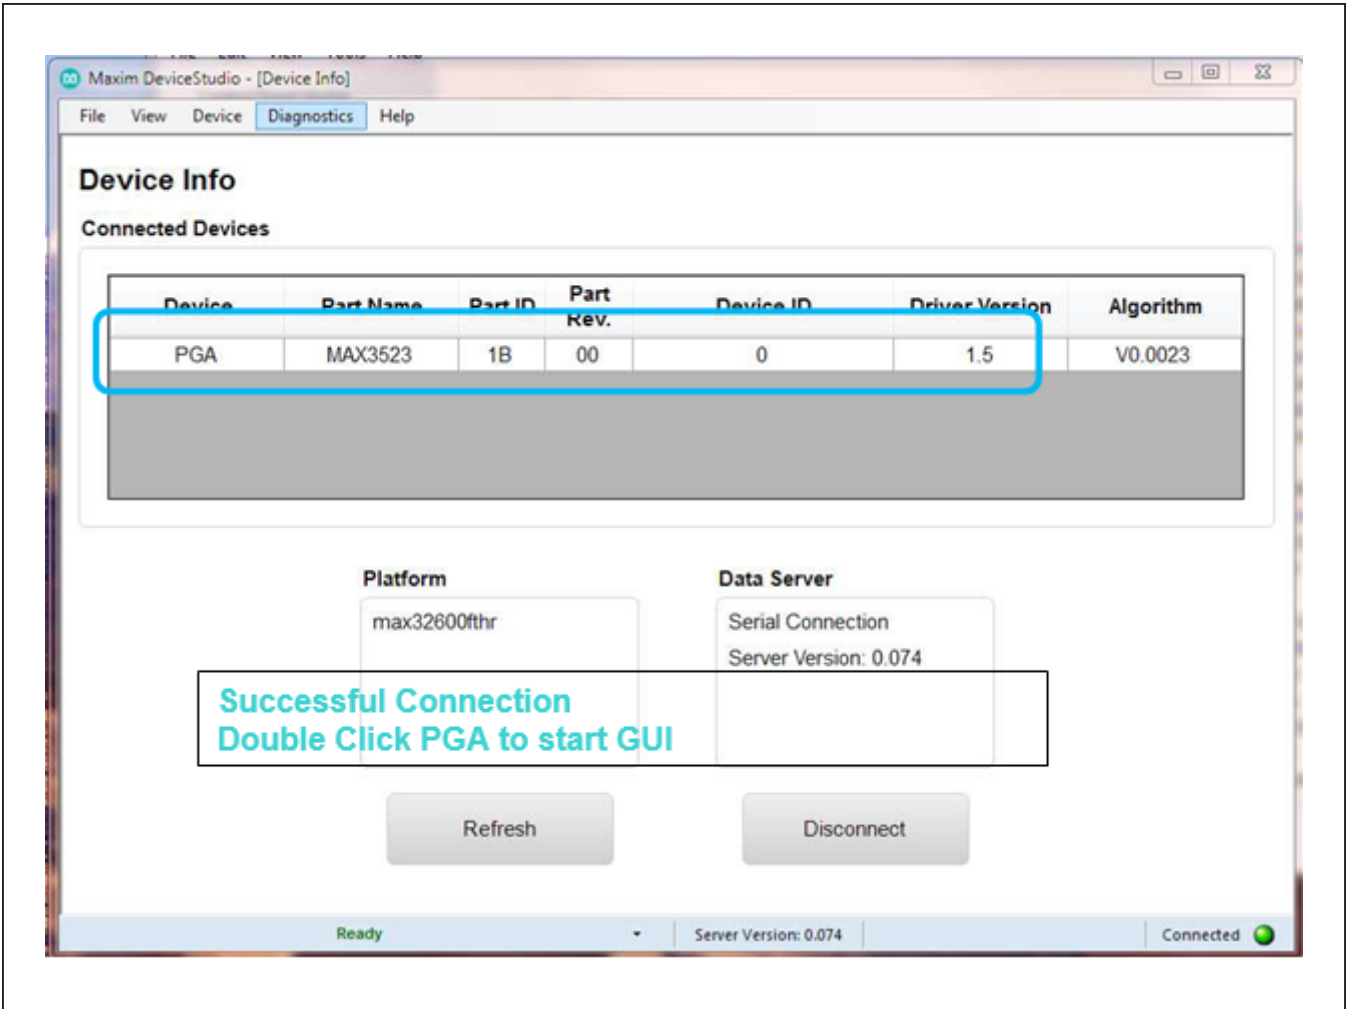

Figure 2. MX3523 EV Kit GUI, Successful Connection
- 4) Check GUI/EV Kit communication status: Launch DeviceStudio5.exe, and DeviceStudio will automatically search for the connected MAXIM EV kit. After few seconds, MAX3523 should appear in device list (Figure 2).
- 7) Double-click PGA section at DeviceStudio to launch MAX3523 GUI. (Figure 2)